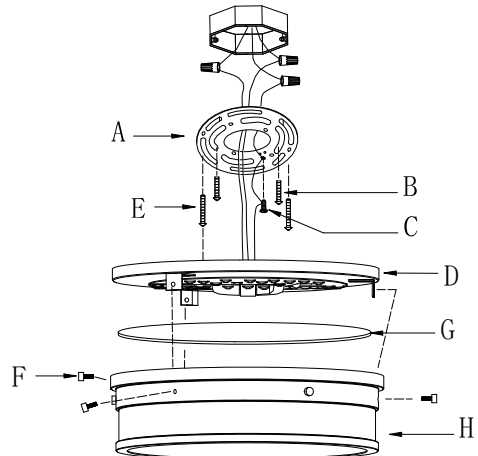

Fig.2
Replacing LED module (Fig. 2)
The LED module can be replaced by a qualified electrician without cutting of wire and without damage to any decorative element to which the fixture is attached. See installation steps for more details (Fig. 2)
- To remove the fixture frame(H) from the fixture, loosen decorative screws (F) , To remove the canopy (D) from the ceiling, loosen mounting screws (B), remove the wire connectors and place the canopy (D) on a clear flat surface. (Fig.1&Fig.2)
- Loosen screws (K) to separate lens (J) and LED module (I) from canopy.
- Reverse steps a-c for installing the new LED module (I).